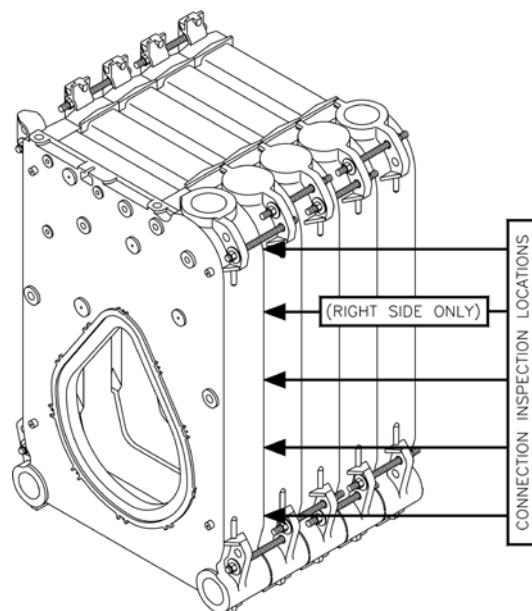

Figure 9: Connection Inspection Locations and Manual Draw-Up Tie Rod Pattern
- k. Large draw-up rod lugs with dual holes are cast in the four corners of each casting. STARTING WITH THE UPPER HOLES, install four 3/4" x 11" long draw-up rods along with washers and nuts (see Figure 9).
1. DRAW UP SECTION SLOWLY AND EVENLY using an alternating pattern starting with the upper right lug (closest to the 7" port) and proceeding to the lower left, lower right and finishing with upper left lug. When you start, grind surfaces between adjoining sections should be approximately 3/8" apart. Use three (3) or four (4) passes at tightening the four (4) draw-up rods a little at a time so that sections are pulled up evenly. During the last pass, pay close attention to the silastic sealant as it squeezes when the sections come in close contact. The silastic sealant should continue to squeeze out wafer thin until the sections are connected metal to metal. If the silastic has stopped squeezing out from the connection and the sections still do not appear to be drawn metal to metal, use a feeler gauge to measure any gaps at the locations identified in Figure 9. (Unless specified otherwise, gaps should be measured at these locations on both sides of the sections). A maximum gap of .025" is acceptable. Measure gaps at the outer edge of the connection only, making sure not to puncture the gasket created by the silastic and rope.